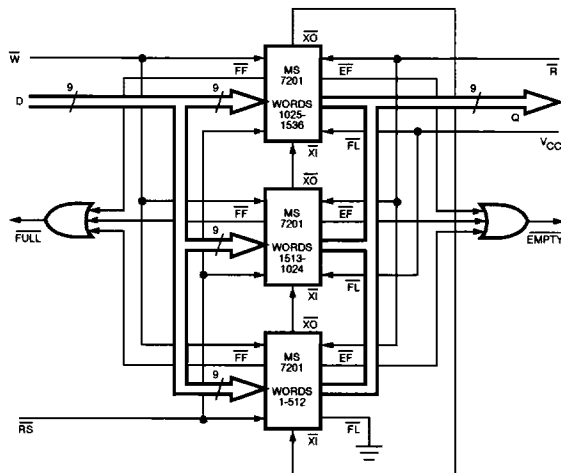

Figure 5. Diagram of a 1536 x 9 FIFO in Depth Expansion Mode
3. The EXPANSION OUT (\overline{XO}) pin of each device must be connected to the EXPANSION IN (\overline{XI}) pin of the next device as shown in Figure 5.
5. The RETRANSMIT (RT) function and HALF FULL FLAG (HF) are not available in Daisy Chain Mode.